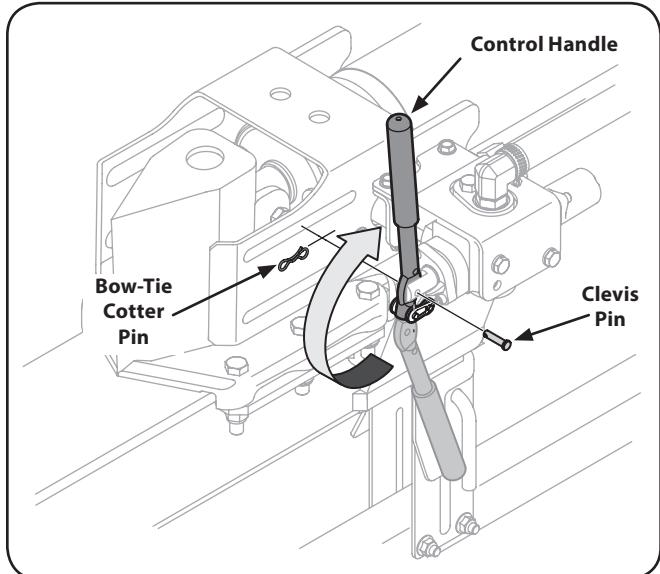

Figure 4-8
- Remove the clevis pin and bow-tie cotter pin from the control handle. See Figure 4-8.
- Rotate the control handle into the operating position and secure with the clevis pin and bow-tie cotter pin removed in step 1. See Figure 4-8.